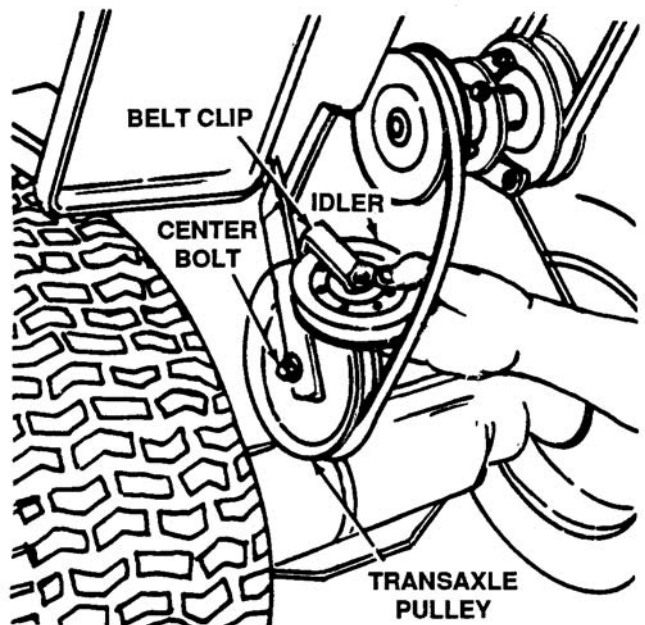

Figure 4-62. Removing Idler Assembly
5. Remove the idler assembly by removing the center bolt. See Figure 4-62.